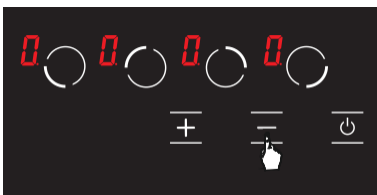

Figure 22
3. Press the **-** key again. (see Fig. 22) This should be performed right after the 2nd step. The Child lock is deactivated permanently. In other words, child lock shall continue to be deactivated even if the unit is turned off and on again.